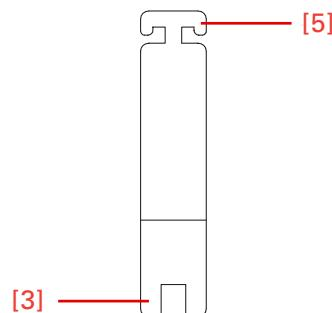

Figure 5b. Allan Key SW 6 for height adjustment of the cryostat.
- The tool (fig. 5b.2, size 6) for the height adjustment of the setting feet of the cryostat is packed together with the accessories of the cryostat (separate carton on the foot rest of the cryostat).